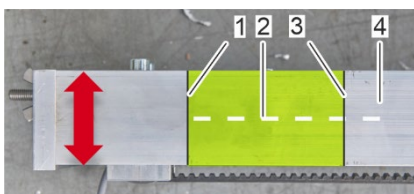
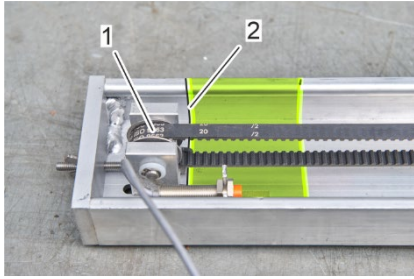

Fig. 29: Marking on backside of the cleaning rail
Fig. 30: Position of the deflection roller
6. Transfer the marking from step 3 (Fig. 29/3) to the back side of the cleaning rail (Fig. 29/4) that is in contact with the horizontal beam of the housing.
7. Transfer the position (Fig. 30/2) of the deflection roller (Fig. 30/1) to the back side of the cleaning rail (Fig. 29/1) that is in contact with the horizontal beam of the housing.
8. Mark a drilling point on the central axis (Fig. 29/2) of the cleaning rail within the marked area.